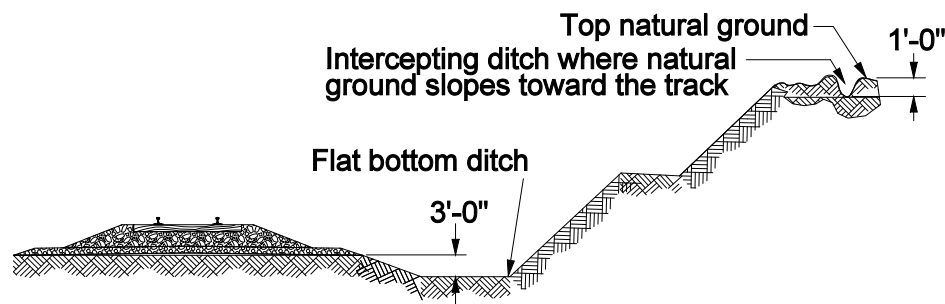

Figure 1.3.1-A
1. The ideal ditch that parallels the track has a depth a minimum of 3 feet below the top of the sub-grade shown in Figure 1.3.1-A. In certain instances, a depth of 3 feet is not achievable, the goal is to keep the ditch below the top of the sub-grade as much as possible.
2. Flat bottom ditches are ideal as shown in Figure 1.3.1-A, however, alternative profiles can be utilized.